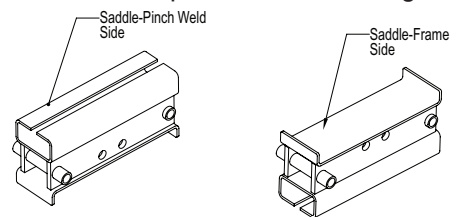

Figure 2 - Saddle Configuration
1. Verify that the product and the application are compatible, if in doubt call **Omega Technical Service (888) 332-6419**. Read the owner's manual completely and familiarize yourself thoroughly with this product, its components, and recognize the hazards associated with its use.
2. Assemble the Dolly as shown in Figure 2.
**NOTE:** The saddle has a flat side meant to go under frame rails and a slotted side meant to be used a pinch weld. Use the appropriate side for you application. Figure 2